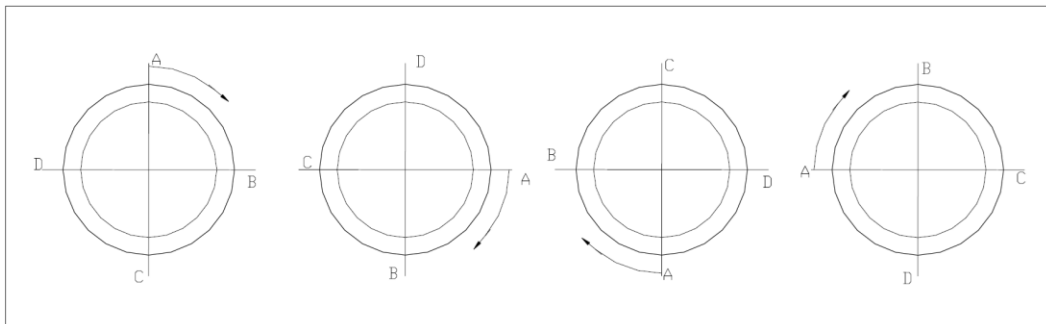

Figure 2
- change the position of the hose in relation to the spear flange frequently to avoid localized wear. (see figure 2)